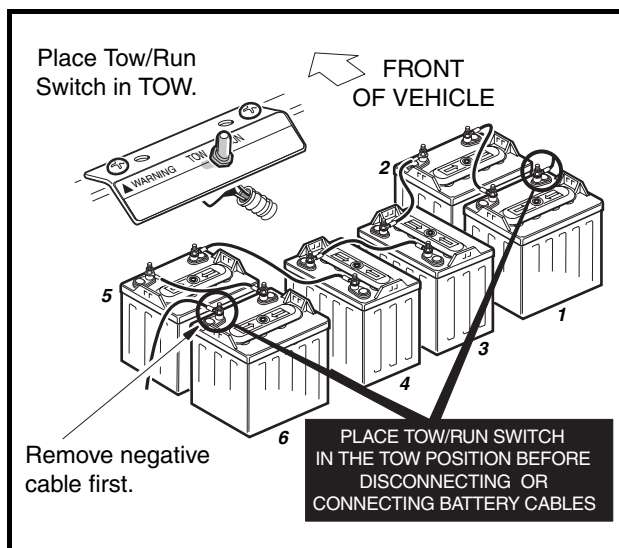
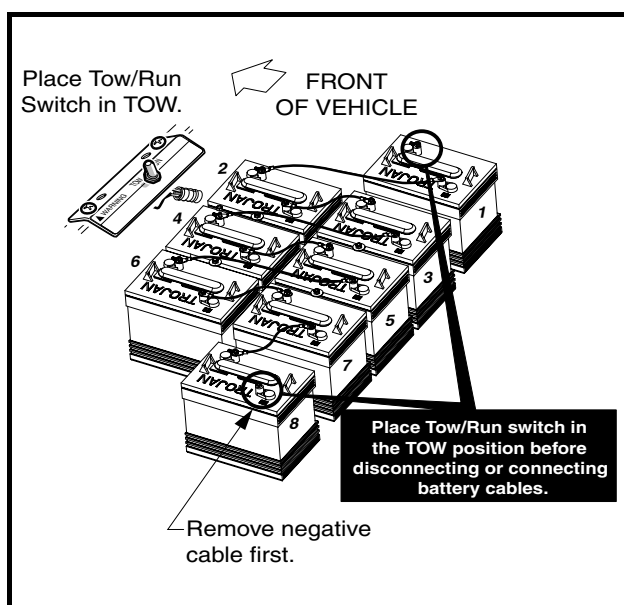
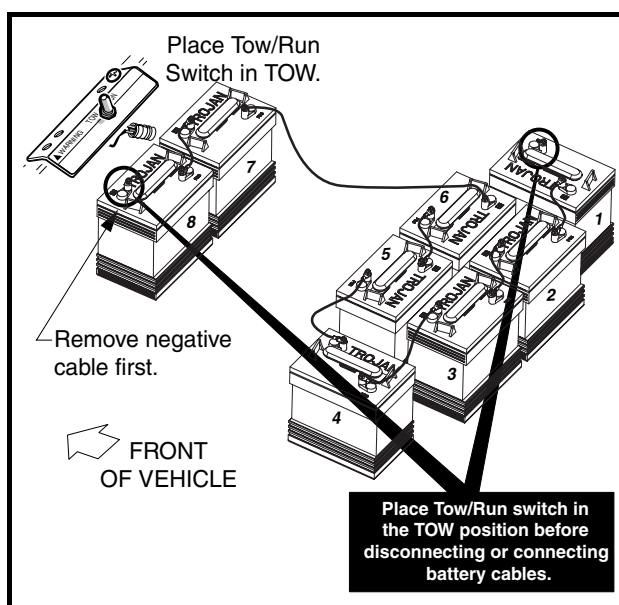

Figure 1-2 IQ System Vehicle
Figure 1-3 Turf 2/Carryall 2 IQ Plus Electric Vehicle
Figure 1-4 Carryall 6 IQ Plus System Vehicle
- To avoid unintentionally starting the vehicle, disconnect the batteries as shown (Figure 1-2, Page 1-3 or Figure 1-3, Page 1-3 or Figure 1-4, Page 1-3).